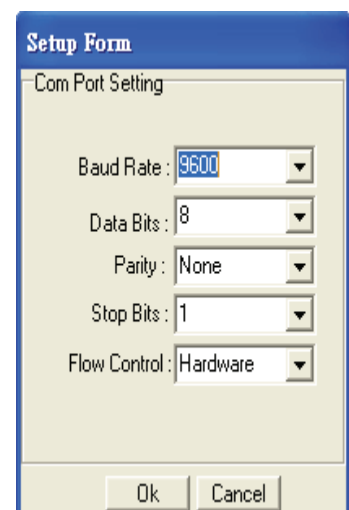

Figure 3-6
- ✓ Press the Port setup button to pop up the setup window for parameter change (Figure 3-6).